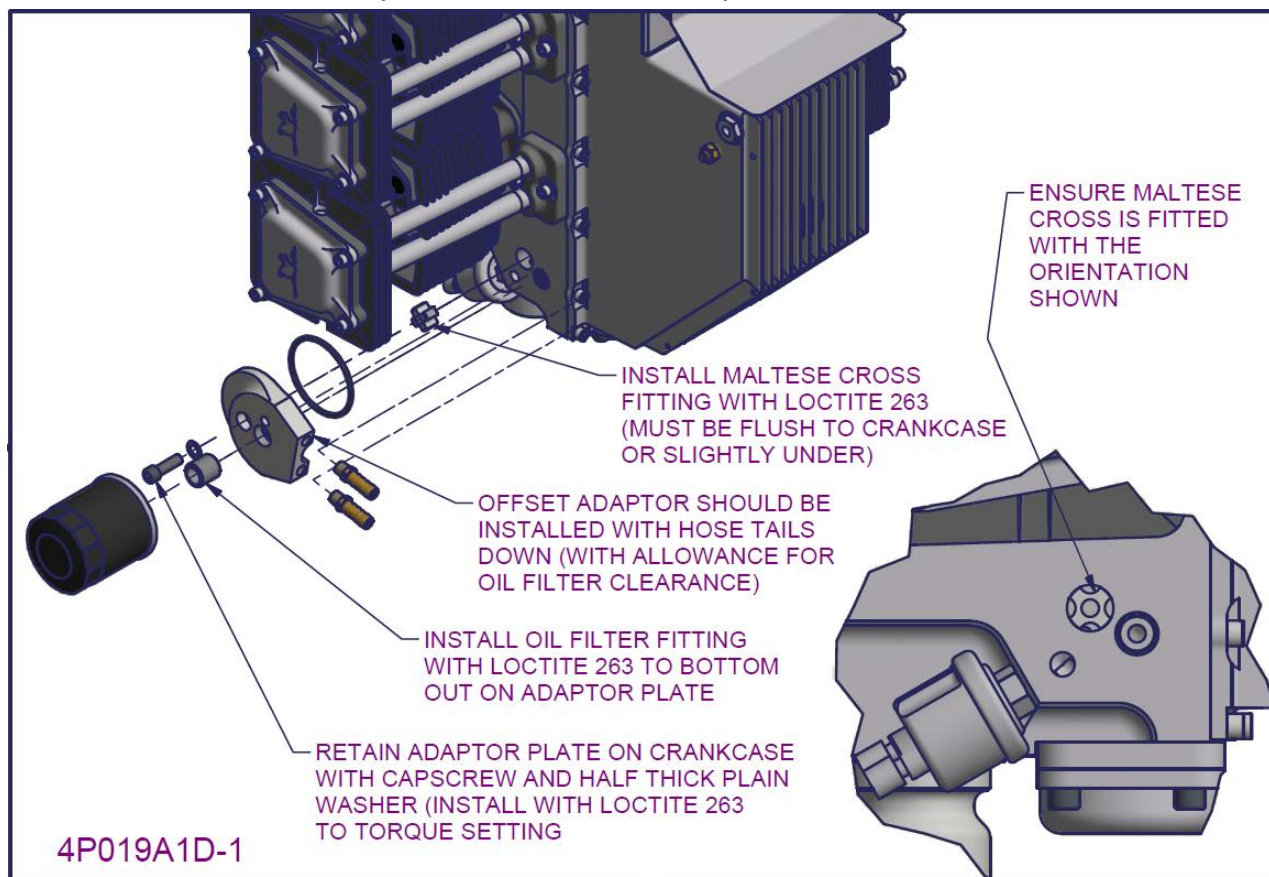

Figure 162 – Reworked Billet crankcase oil filter adaptor installation
- The fitting must also be installed with the orientation shown in Figure 162.